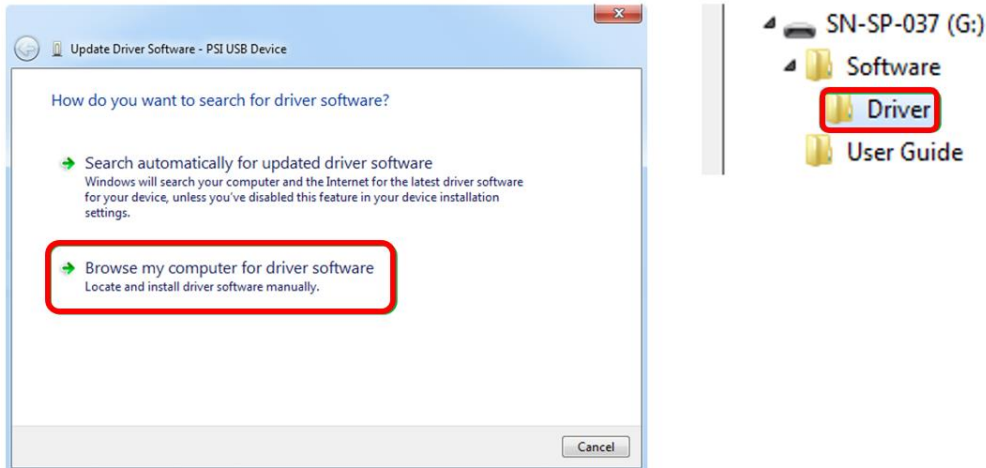

Fig. 13 Choose the driver from the USB disc.
- Click Browse my computer for driver software and select Driver folder on the SpectraPen installation disk. Allow the installation even if the warning message appears (Fig. 13)